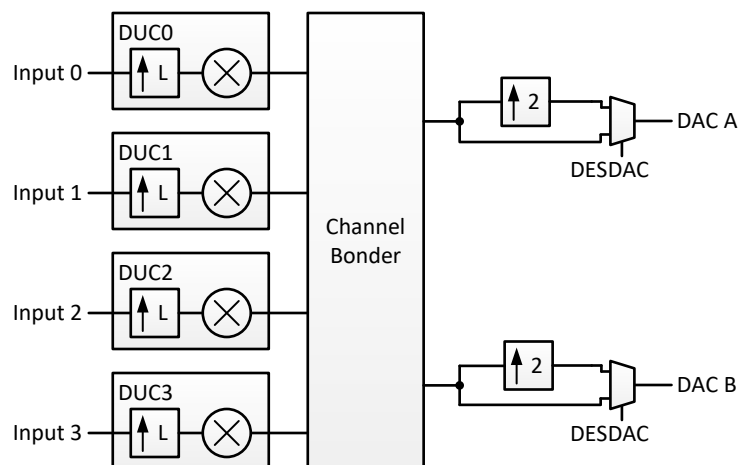

図 7-13. DUC Block with real output
The digital signal processing blocks are shown in 図 7-13. The device includes four digital up-converter (DUC) blocks supporting four complex (IQ) input streams that can be combined at different RF frequencies. The four DUCs can be flexibly assigned and summed together for either DAC output in the channel bonder. The final signal processing block is a extra interpolate by 2 filter for use with DES2XL/H mode.